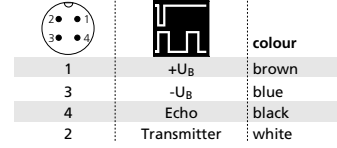

Fig.2: Pin assignment with view onto the sensor plug and colour code of the connection cable
■ Connect the sensor to the wms controller respectively to your own control and signal evaluation equipment according to Fig.2.